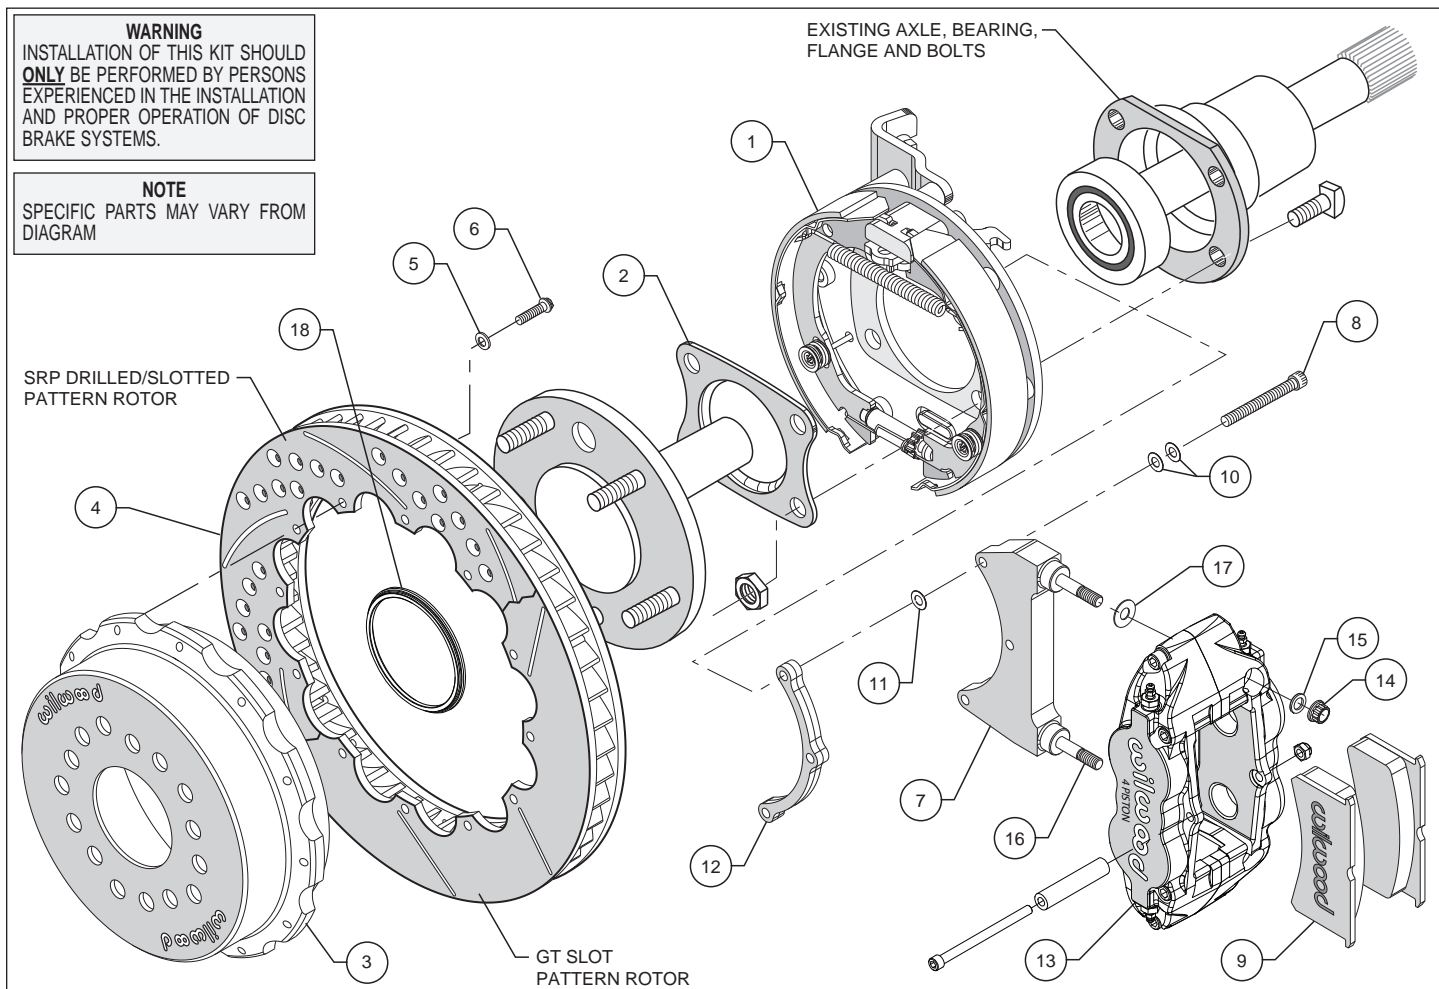

Figure 1. Typical Installation Configuration
•**NOTE:** Please reference the caution statement at the beginning of the assembly instructions. The caliper mounting bracket assembly (7) should be installed first with clean, dry threads on the mounting bolts (8). Install the bracket from the rear side of the bracket kit assembly (1) by sliding bolt (8) through two flat washers (10) bracket (7), shim washer (11) and finally through the spacer (12), see Figure 1. **NOTE:** End of bolt should not exceed inside face of insert. The bracket must tighten squarely against the back side of the bracket kit assembly (1). Inspect for interference from casting irregularities, machining ridges, burrs, etc. Use one thin shim (11) between the bracket (7) and spacer (12) during initial trial fitting.
•Install one washer (17) over each pre-installed stud (16) on the radial mount bracket (7). Slide the caliper (13) in place over the studs and rotor, then install the washer (15) and lock nut (14) to hold the caliper in place. Snug the lock nuts (14) and check that the rotor (4) is centered in the caliper (13). Add or subtract .015" shims (11) as necessary between the caliper mounting bracket (7) and the spacer (12) to center the caliper (9).
•Remove the caliper center bridge pad retainer bolt, nut, and tube from the caliper. Slide the brake pads (9) into place. They should install easily without interference. Check that the outside radius of the brake pad is aligned with the outside diameter radius of the rotor face. Add or subtract shims (17) between the caliper (13) and mount bracket (7) to gain the proper alignment. Reinstall the center bridge pad retainer tube, bolt, and locknut. The locknut should be snug without play in the bolt or tube. Be cautious not to over tighten.
•Adjust the parking brake shoes outward (using a drum shoe adjustment tool available at your local auto parts store) while spinning the hat (3) until a slight drag is felt against the hat/drum. Remove the lug nuts that were holding the hat/rotor in place. Install the wheel and lug nuts. Check to see that the wheel rotates freely without interference.
•Once all clearances have been checked, remove the wheel, caliper, hat/rotor from the bracket kit assembly (1). Secure the caliper mounting bracket (7) to the bracket kit assembly (1) using red *Loctite*[®] 271. Torque bolts (8) to 180 in-lb. Reinstall the hat/rotor assembly and again use lug nuts to hold it in place. Lubricate caliper mounting studs and nuts with lightweight oil, reinstall the caliper, torque the caliper nuts (14) to 30 ft-lb.
•**NOTE:** Clevis and cable kits which attach to the parking brake assembly are not included in the Wilwood parking brake kit. Wilwood offers a generic style parking brake cable kit, P/N 330-9371 for this application which can be ordered separately from your local Wilwood dealer or by calling Wilwood customer service at (805) 388-1188.